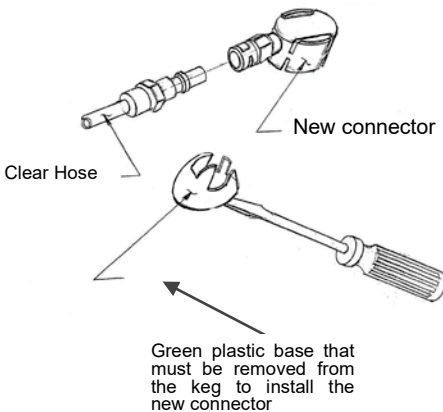

Figure 7
1. Remove the adaptor from pressurized keg. (Figure 7) Recycle the adaptor according to the local environmental law.